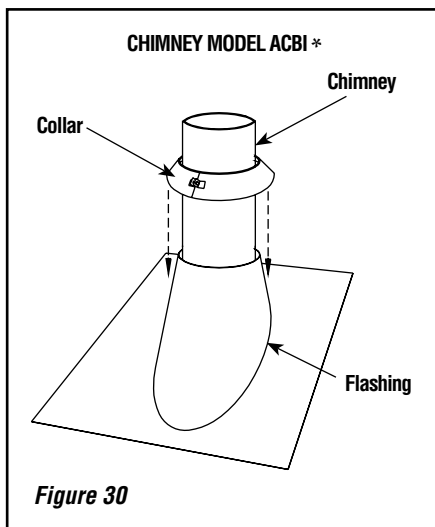

Figure 30
5. Put the roof flashing in place and seal the joint between the roof and the flashing with roofing pitch (see **Figures 30 and 31**). For sloping roofs, place the flashing under the upper shingles and on top of the lower shingles. Nail the flashing to the roof, using roofing nails.